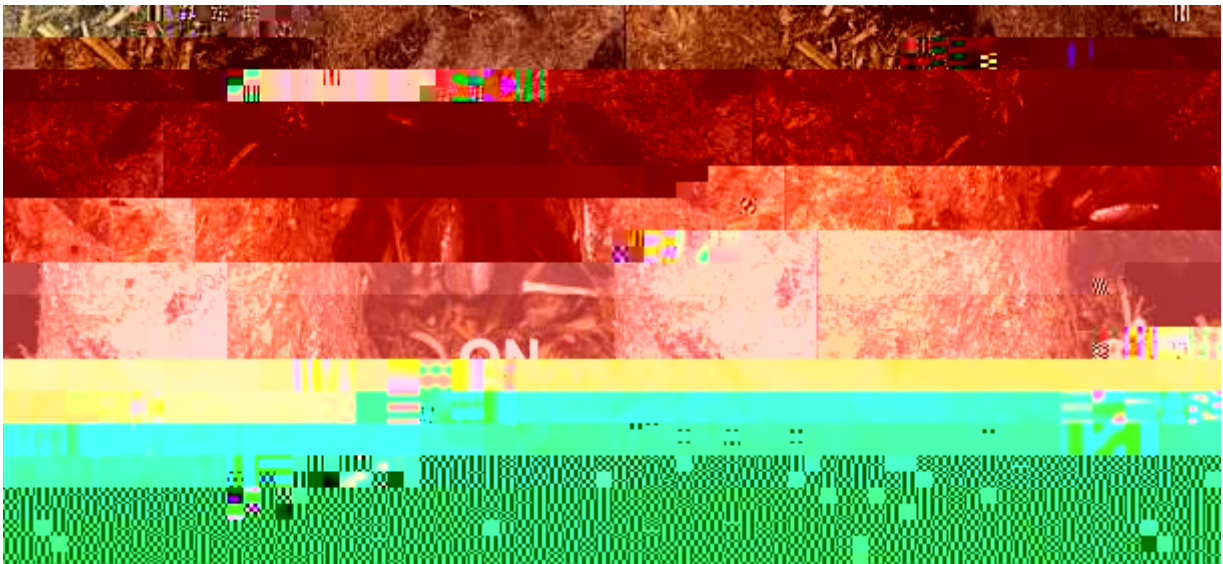

Figure 1: Gutter Valve Position
- 4.2. Be sure one of the gutter valves in the barn is open (Figure 1; Gutter Valve Position), using the gutter valve tool (Figure 2; Gutter Valve Tool) before starting the manure pump.